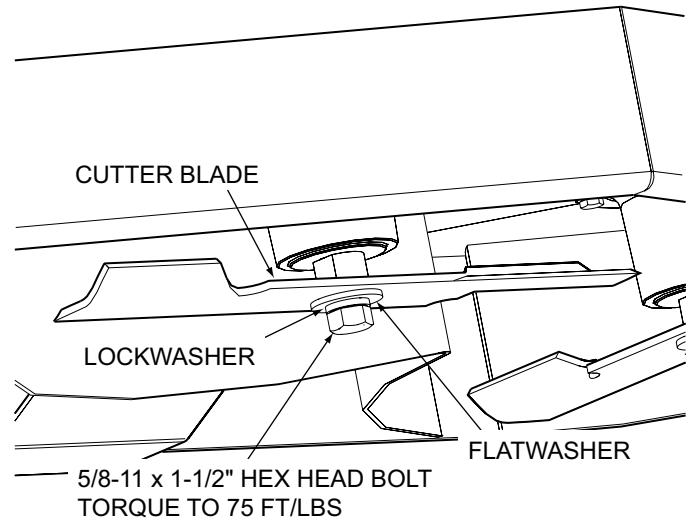

Figure 7-7. Blade Replacement
3. Secure the cutter blades to prevent them from rotating, (use the optional Blade Buddy tool P/N 9212, to assist in securing the cutter blades), remove the blade attaching bolt. Remove the cutter blade, bolt, lockwasher and flatwasher from the spindle shaft. See Figure 7-7.
5. Install the cutter blade onto the cutter spindle shaft. Secure the blades from rotating and torque to 75 ft/lbs. See Figure 7-7.